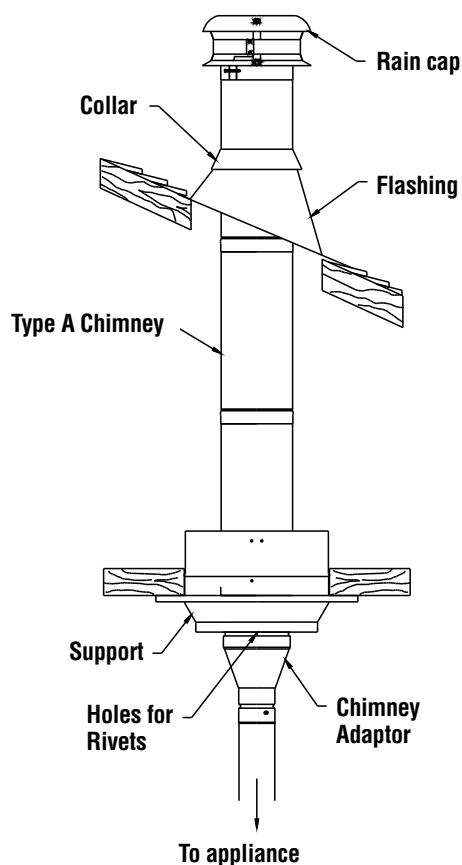

Figure 10
1. You may connect your SPX-vent to an existing 6", 7" or 8" dia. Type A chimney (see **figure 10**).